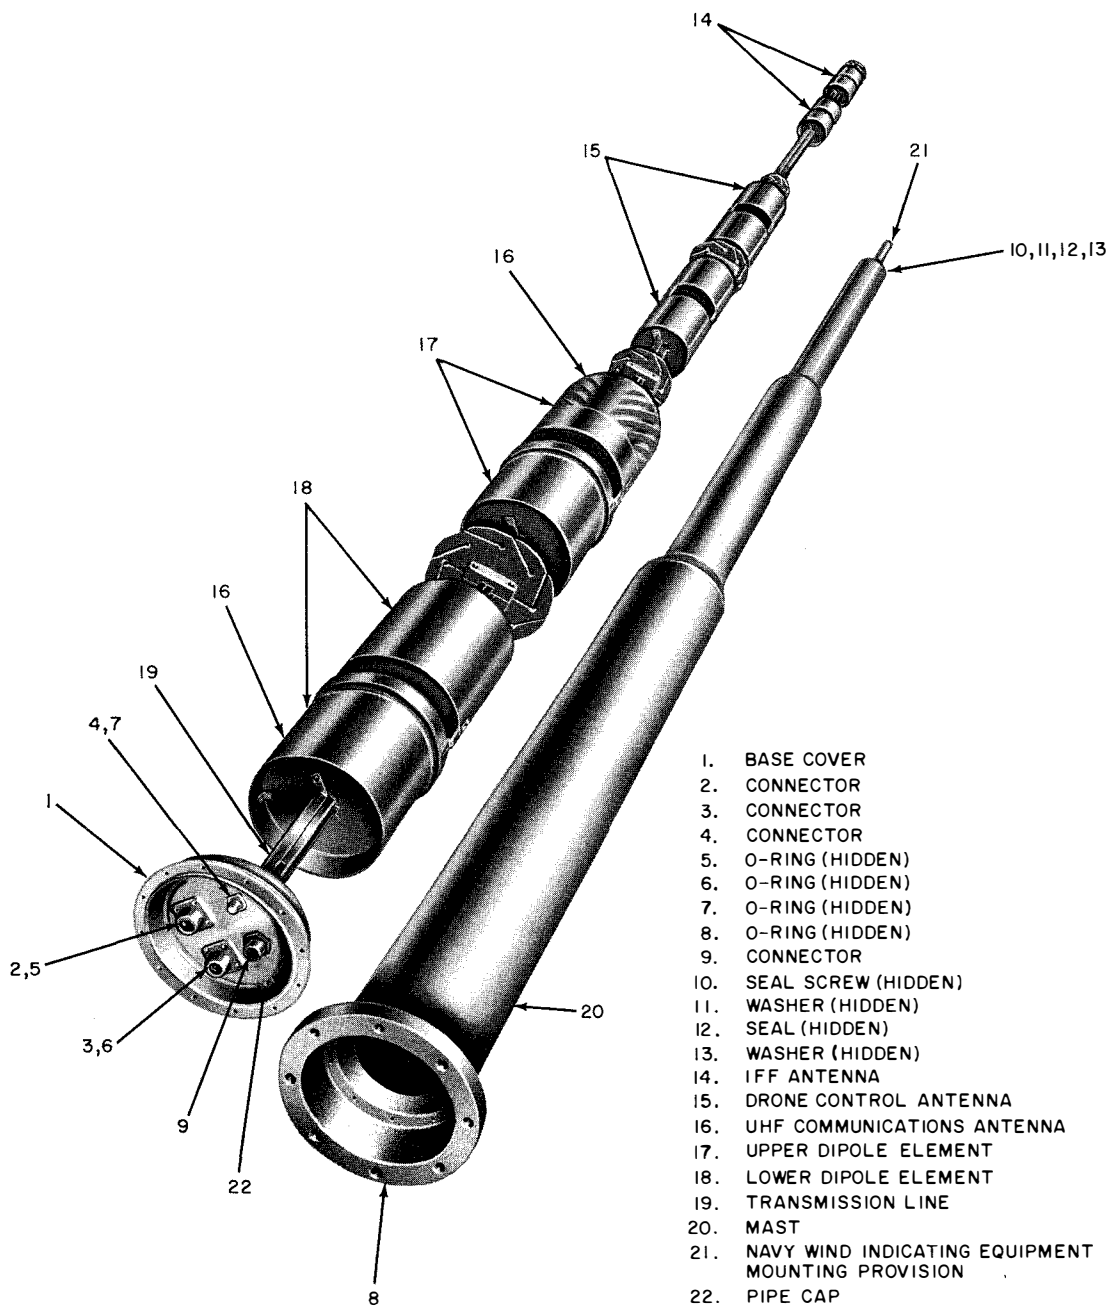

Figure 1-1. Antenna AS-1390/U, Relationship of Units
Antenna AS-1390/U is shown in figure 1-1.
The mounting flange of the fiberglass mast of Antenna AS-1390/U contains eight 7/8-inch diameter holes on a 12-1/4 inch diameter bolt circle. Eight bolts are used to mount the antenna to a suitable mounting plate. This mounting plate must be provided with a hole to accommodate the transmission lines to the antenna assembly. The AS-1390/U is equipped with four electrical connectors, which are mounted on its recessed base cover. Table 2-1 lists each connector with its index number on figure 1-1, its function, and its mating connector. The mating connectors are not supplied with Antenna AS-1390/U.
| CONNECTOR                                  | FIGURE 1-1INDEX NO. | FUNCTION   | MATINGCONNECTOR |
a. VISUAL INSPECTION. - Examine the exterior of Antenna AS-1390/U for damage. Make sure that the four electrical connectors (2, 3, 4, and 11; figure 1-1) are not deformed, misaligned, or fractured.
b. INSULATION RESISTANCE TESTS. - Using either a 500 vdc or a 1000 vdc insulation resistance tester, measure the insulation resistance between the inner and outer conductors of each of the three coaxial connectors (2, 3, and 4; figure 1-1). These three resistances should each be one megohm or more. If any insulation resistance is less than one megohm, purge the antenna assembly as described in paragraph 2-6c.
c. PURGING. - (See figure 1-1.) The following procedure is recommended for purging Antenna AS-1390/U.
Step 1. Loosen the seal screw (12) at the top of the mast.
Step 2. Remove the pipe cap (22) from the close nipple in the base cover.